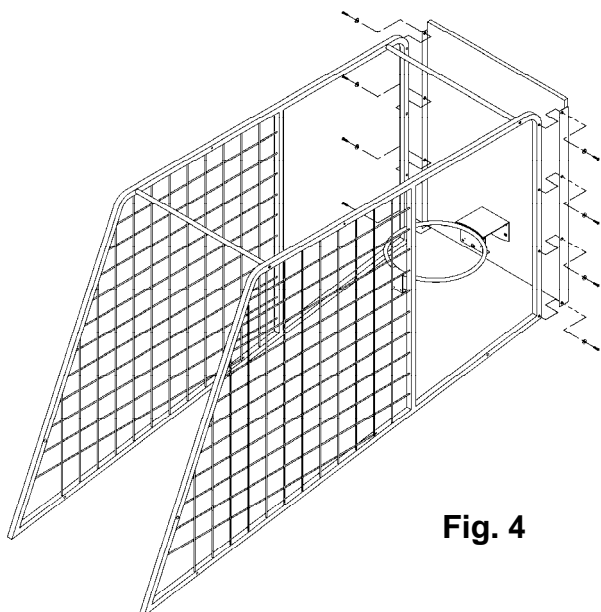

Fig. 4
8. Install the backboard with basket onto the side cages using the (8) 1/4-20 X 5/8" button head Allen cap screws supplied. (See Fig. 4)